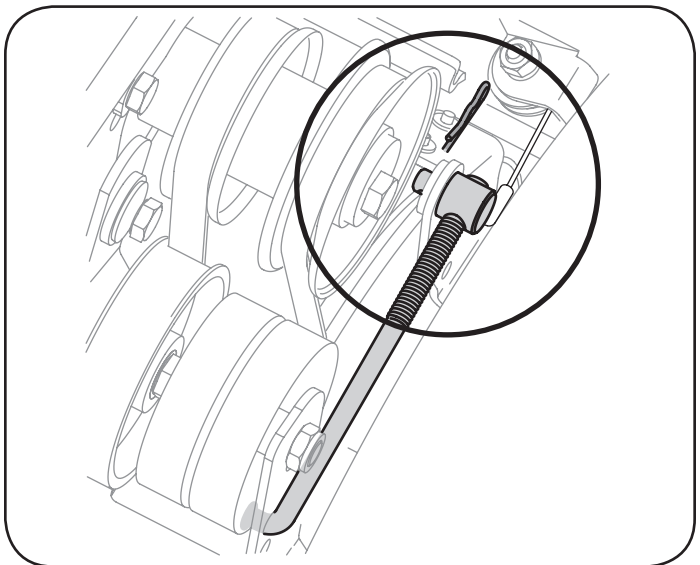

Figure 25
1. Remove the hairpin clip and flat washer from the ferrule in order to disconnect the auger idler rod from the brake bracket assembly. See Figure 25.